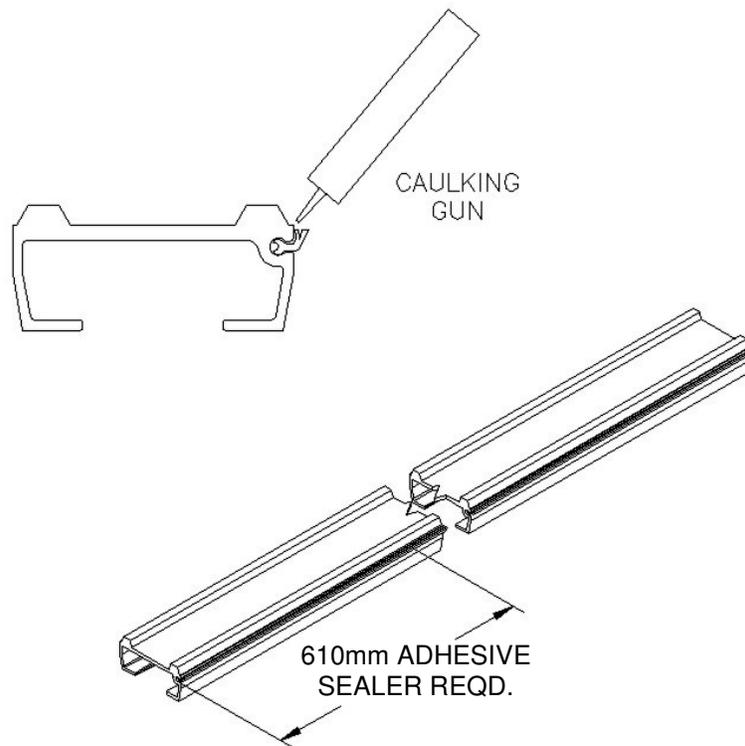

Figure 50
- g. A 610mm long bead of adhesive sealer is required between the seal and the floor slat/plank (Figure 50). Pull the seal outward to apply the adhesive. Press the seal against the floor slat/plank after applying the adhesive. Allow the adhesive to dry before installing the floor slat/plank.